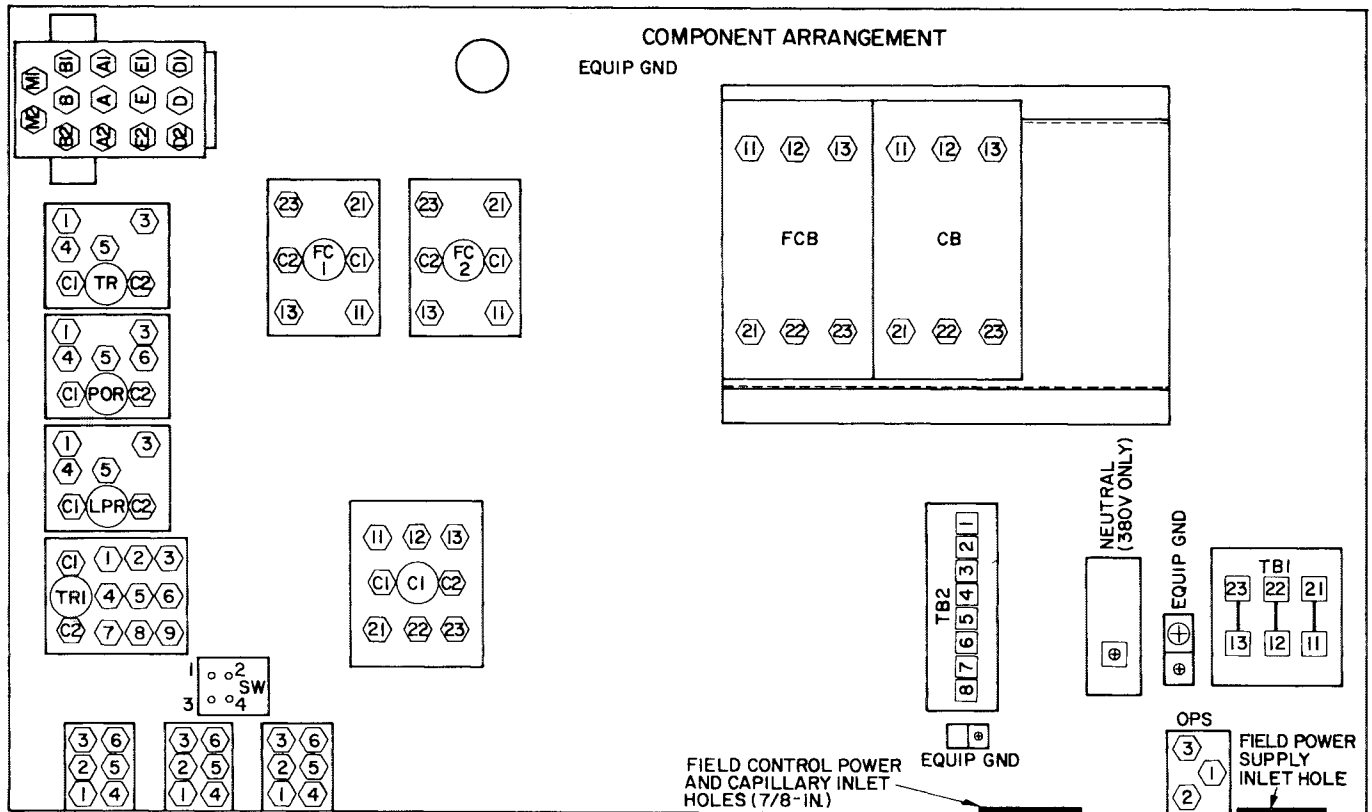

Fig. 1 — Oil Pressure Safety Switch (OPS) Location
switch are provided in the bottom flange of the control box. Use the no. 6B screws (Package Contents table, item 4) to attach the oil pressure safety switch (item 1) to the bottom flange of the control box, between main power and control power inlet holes (see Fig. 1). Install oil safety switch so that terminals face toward the side.
pass the 24-in. lengths of capillary tube, marked LUBE and SUCTION, through the 7/8-in. diameter hole near the switch. See Fig. 1. Place the plug button (Package Contents table, item 5) in the hole to protect the tubing and to close the opening.
NOTE: Refer to Component Arrangement of unit wiring label and Fig. 1 for location of TR, TR1 and TM terminals. Timer Motor (TM) is located above TR. Terminals E, E1, E2 are not shown in control schematic.